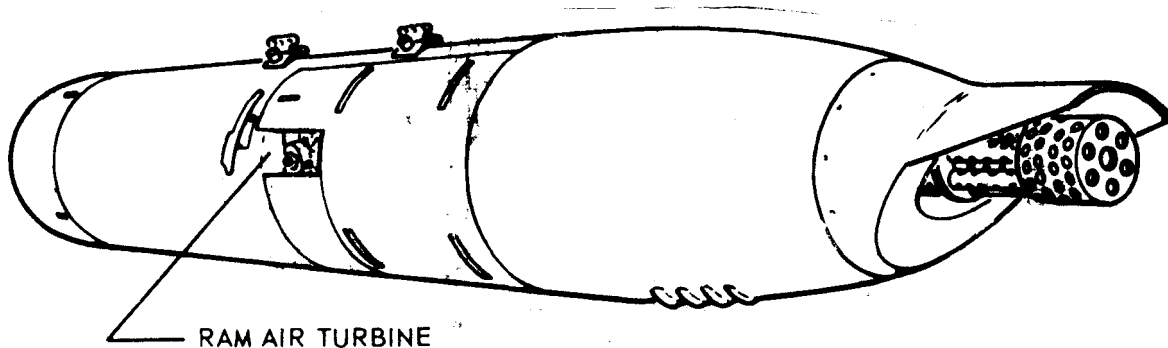
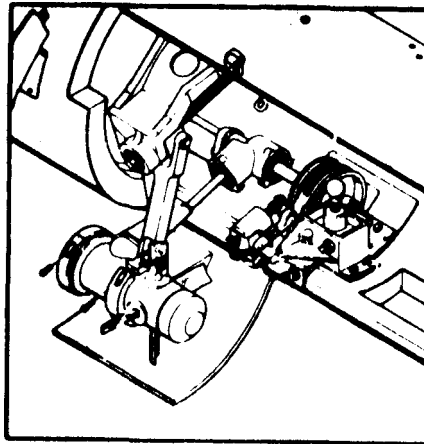

Figure 9-13. Location of Ram-air Turbine Door and the Side Cowling Latches on the SUU-16 Gun Pod
Figure 9-14. SUU-16 Gun Pod with RAT Door Extended
- b. Remove the side cowling by disengaging the five truck latches (see figure 9-13)
The SUU-16 gun pod has a ram air turbine door directly aft of this cowling (figure 9-13). Stay clear of this door. Should it operate inadvertently, it will extend or retract in 1/10 of a second (see figure 9-14)